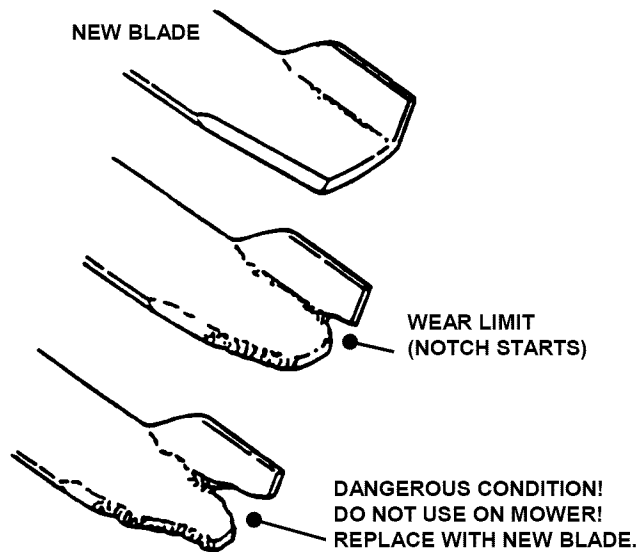

FIGURE 4.5
1. Inspect blade frequently for signs of excessive wear or damage. See Figure 4.5.
DO NOT use a cutting blade that shows signs of excessive wear or damage. See Figure 4.5. Wear heavy leather gloves when handling or working around cutting blades. Blades are extremely sharp and can cause severe injury.
See Figure 4.5.